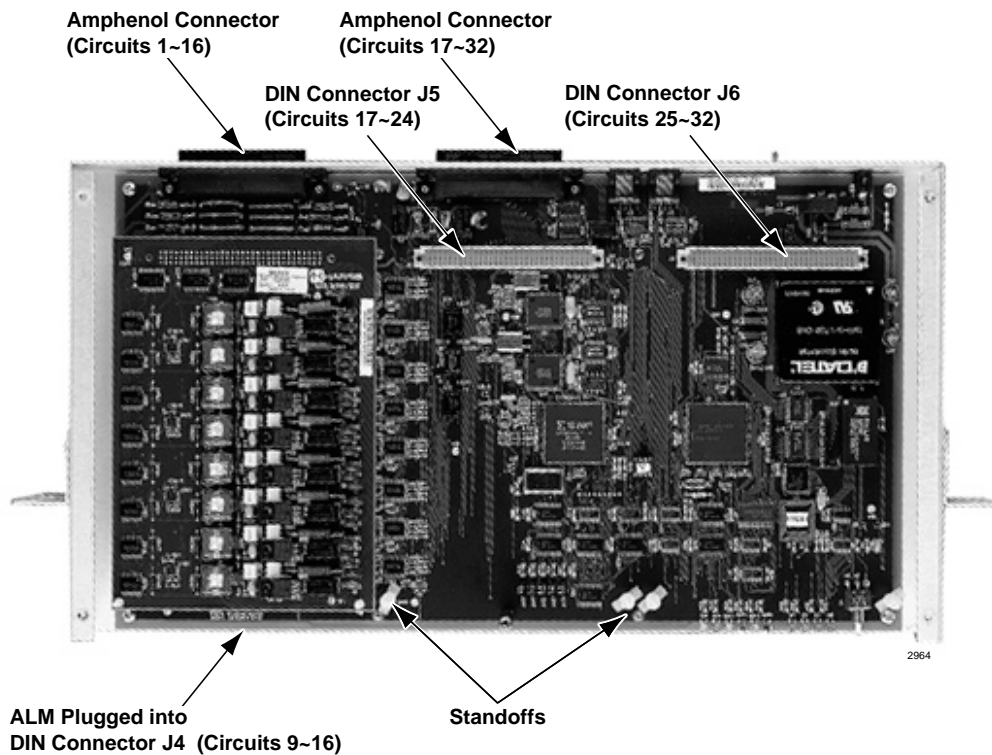

Figure 16-16 ALM Connections on the BSIA
2. Align the ALM with DIN connector J5 (see Figure 16-16).